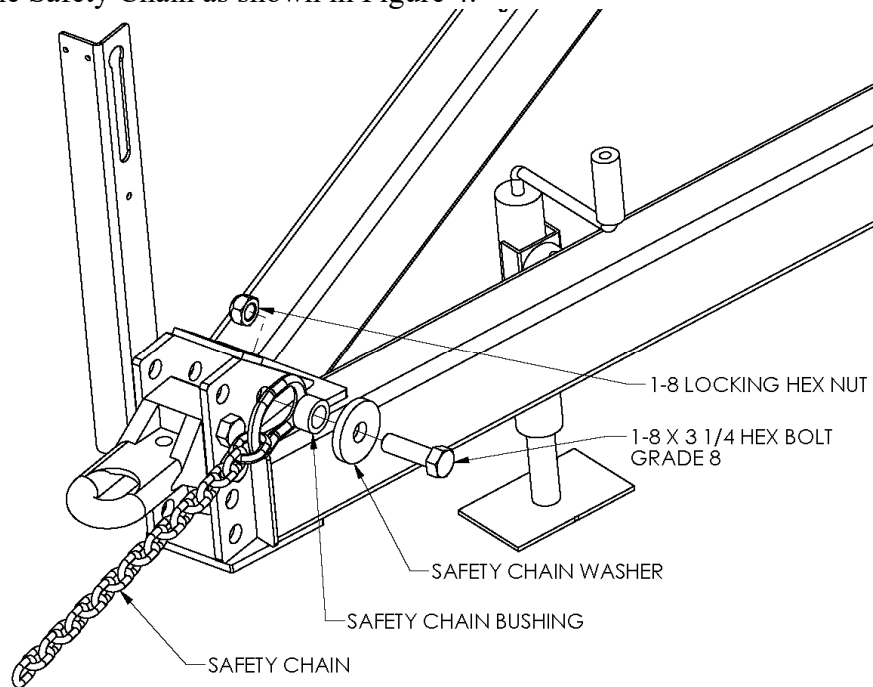

Figure 4
1. Attach the Safety Chain as shown in Figure 4.